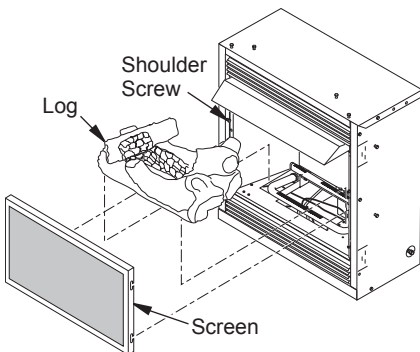

Figure 33 - Installing Log and Screen
1. Remove log packaging material and discard packaging. Gently place log over burner (see Figure 33). Do not allow log to contact flame. If flame contacts log, soot will be created.